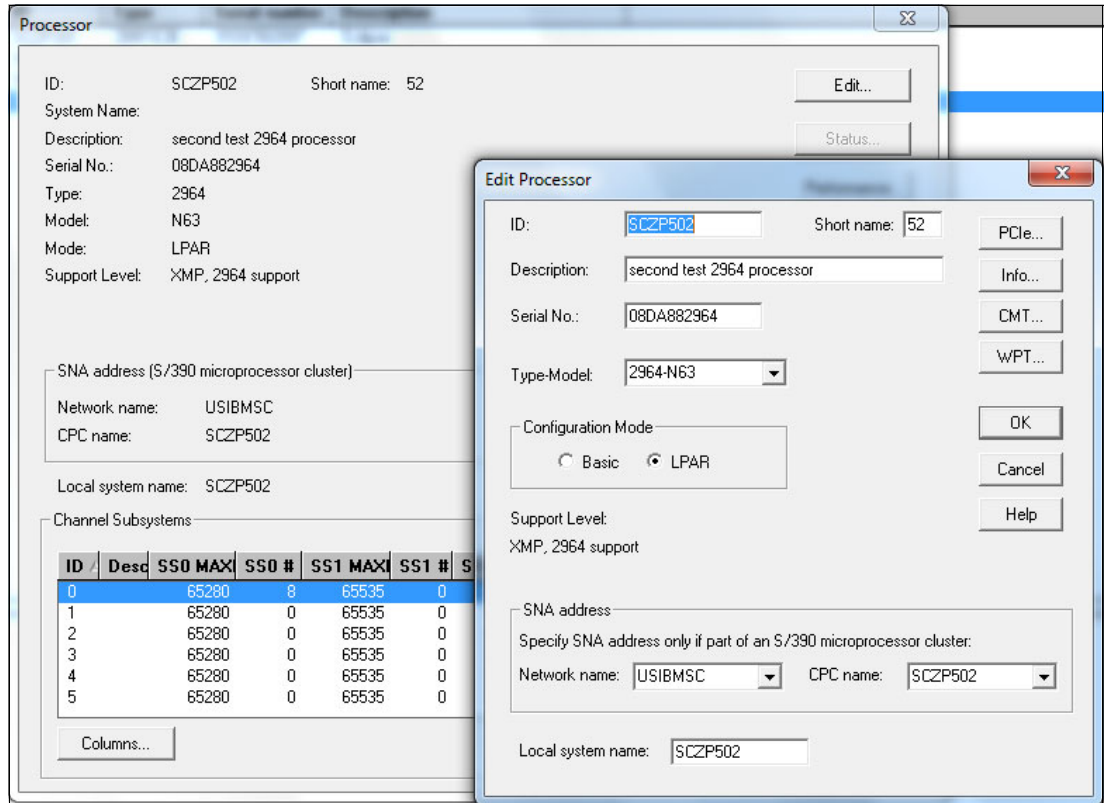

Figure 5-50 HCM - Edit Processor: PCIe functions
3. Click **Edit** → **PCIe**. See Figure 5-50 on page 198.